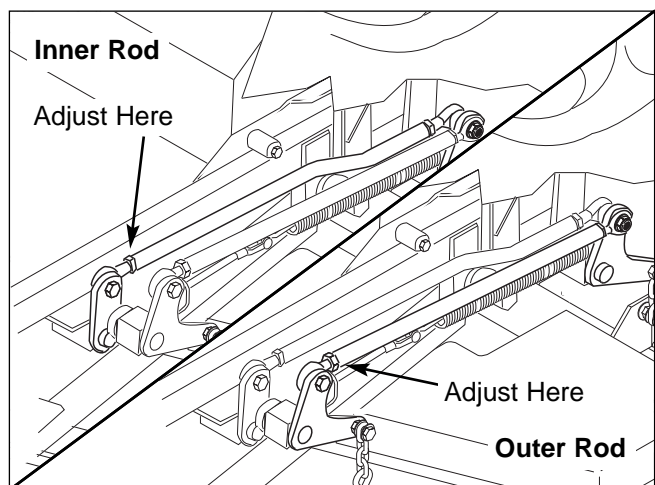

Figure 40. Adjust the Inner & Outer Lift Rods
8. Refer to Figure 40. To adjust the inner lift rod, loosen the jam nut on the front ball joint then remove the 1/2" hardware fastening the ball joint the the lift pivot arm. Turn the ball joint clockwise to shorten the distance between the rod pivots or counterclockwise to lengthen the distance between the rod pivots. Reinstall the ball joint on the lift pivot arm and secure with the 1/2" hardware previously removed. Tighten the jam nut against the lift rod.
9. Refer to Figure 40. To adjust the outer lift rod, loosen the jam nut on the front ball joint then remove the 1/2" hardware fastening the ball joint the the lift pivot arm. Turn the ball joint clockwise to shorten the distance between the rod pivots or counterclockwise to lengthen the distance between the rod pivots. Reinstall the ball joint on the lift pivot arm and secure with the 1/2" hardware previously removed. Tighten the jam nut against the lift rod.